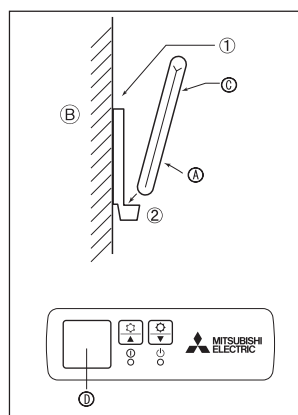
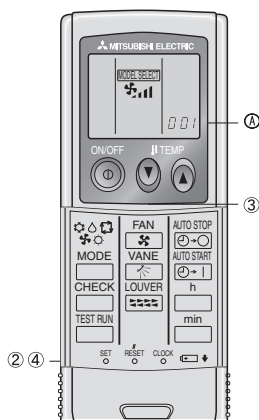

Fig. 6-5
Fig. 6-6
2) Installation method (Fig. 6-5)
- ① Attach the remote controller holder to the desired location using two tapping screws.
- ② Place the lower end of the controller into the holder.
3) Setting (Fig. 6-6)
- ① Insert batteries.
- ② Press the SET button with something sharp at the end. **MODEL SELECT** blinks and Model No. is lighted.
- ③ Press the temp. **▲** **▼** buttons to set the Model No. If you mistook the operation, press the ON/OFF **Ⓞ** button and operate again from procedure ②.
- ④ Press the SET button with something sharp at the end. **MODEL SELECT** and Model No. are lighted for three seconds, then turned off.